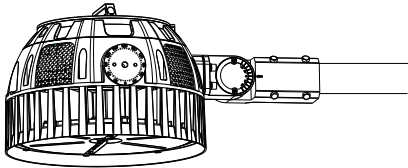

Figure 15
2.Loosen the fixing bolts and adjusting bolts, align the fixture to required angle. Tighten adjusting bolt and fixing bolts after the angle is confirmed.(Figure 15)